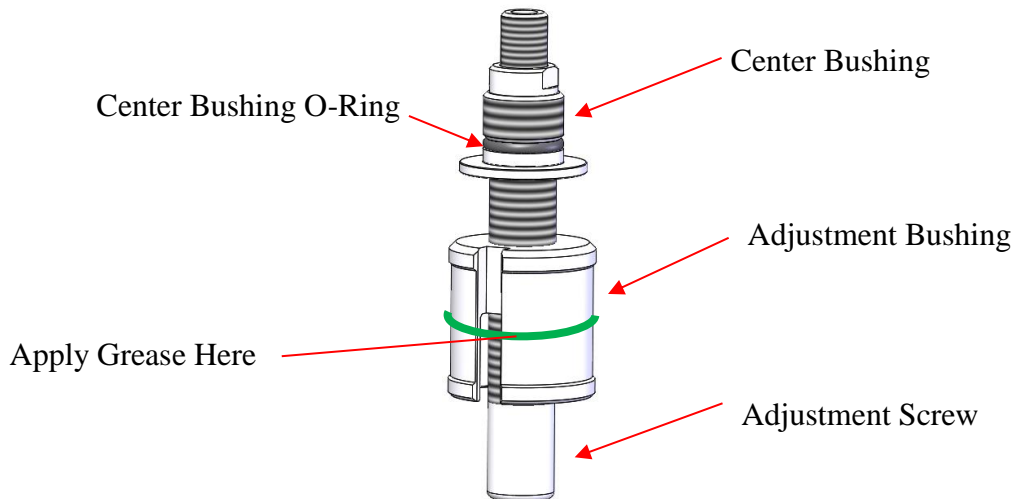

Figure 31: Inner Bonnet Components
3. Install the center bushing over the top of the adjustment screw. See Figure 31.